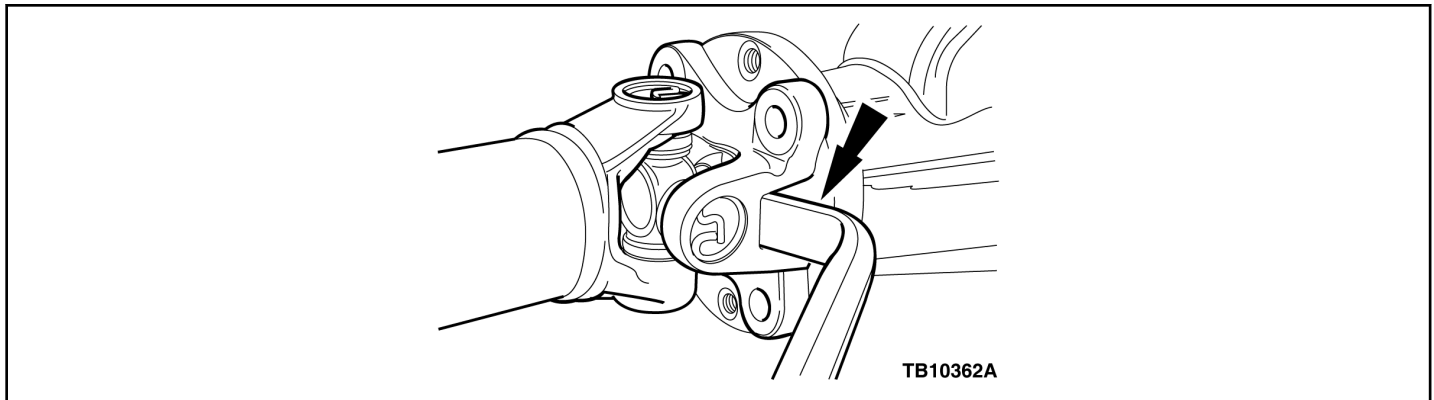

Figure 2 - Article 14-0090
5. Remove and discard the four (4) driveshaft flange bolts.
6. Disconnect the driveshaft centering socket yoke from the pinion flange. (Figure 2)